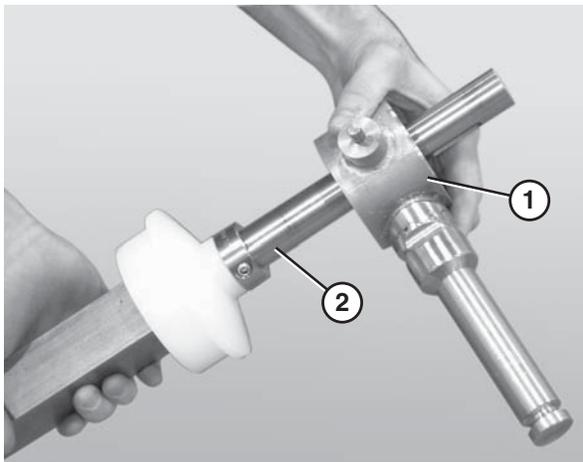

Figure 75
- Slide the second bearing shaft assembly, or the motor mount bracket (**Figure 75, item 1**), onto the longer end of the drive spindle (**Figure 75, item 2**).